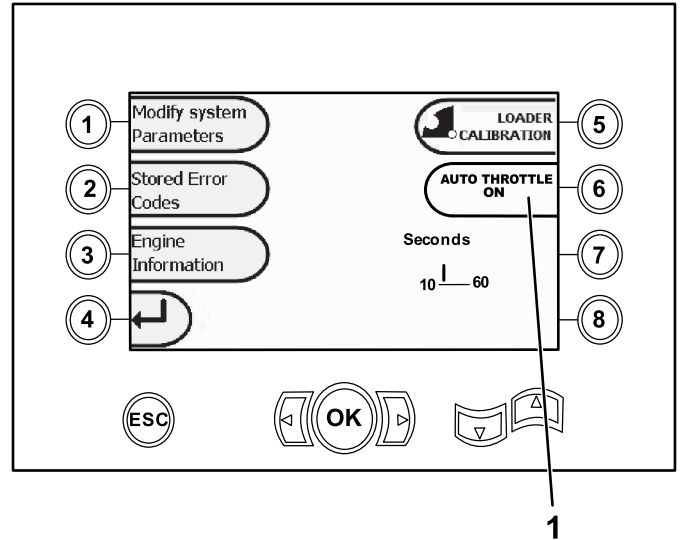
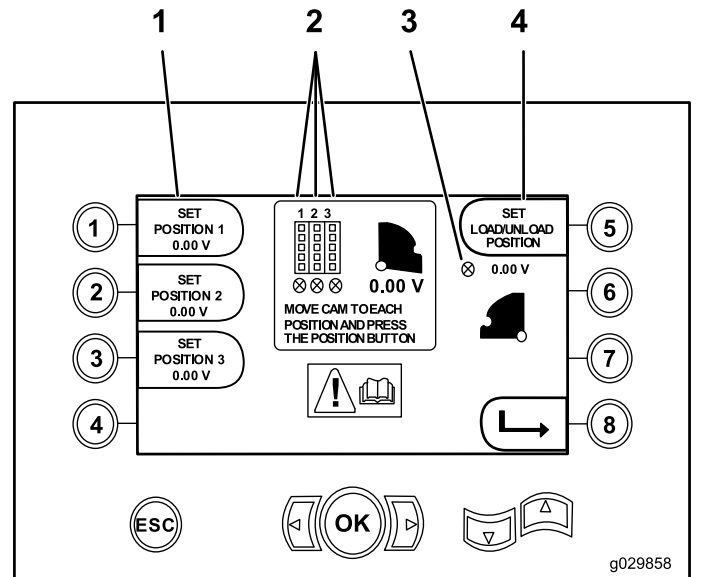

Figure 18
Figure 26
Software versions K and up only: use this screen to calibrate the loader cams (Figure 18) as described in Figure 26.
Software versions V and up only: use this screen to the auto throttle option (Figure 18).
To access this screen, press button number 1 in the Diagnose and Update Screen (page 7) to select Modify System Parameters (Figure 18).
- Button 1—Set position 1 (Figure 26)
- Button 2—Set position 2 (Figure 26)
- Button 3—Set position 3 (Figure 26)
To set the load or unload position, press button number 5 (Figure 26).